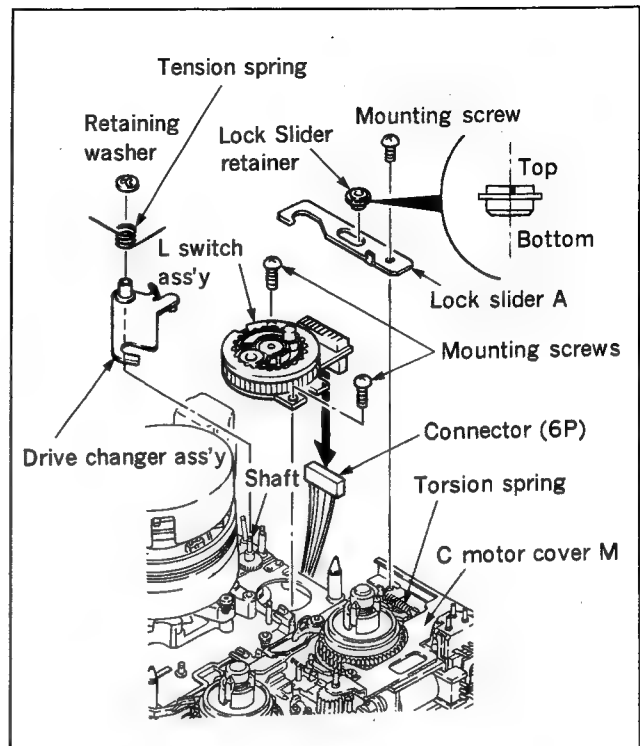

Fig. 4-21-1 L switch ass'y removal
5. Lock slider A removal (Fig.4-21-1)
6. Drive changer ass'y removal (Fig.4-21-1)